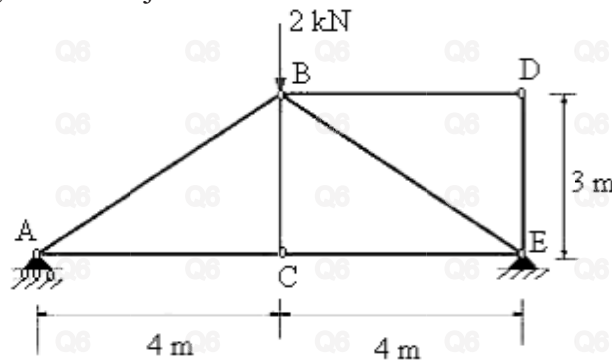

Figure: 3
5. Calculate the forces acting the truss members BD and DE for the figure 3 shown below using method of joints and tension coefficient method. [15]